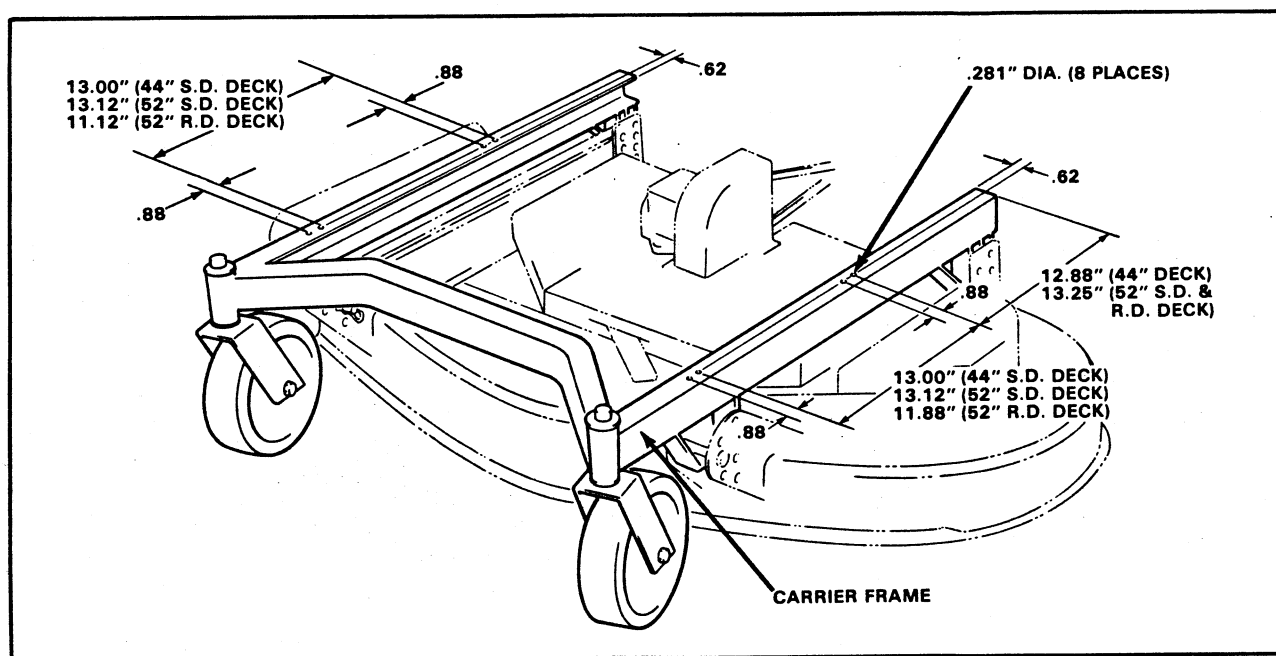

Figure 2
2. Using dimensions shown in Figure 2, locate and drill (8) .281" dia. holes in carrier frame (4 in each side).